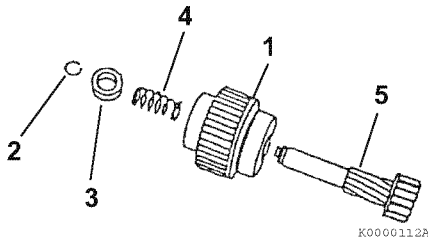

Figure 11-27
1. Apply the appropriate starter bendix grease (obtain locally) to the pinion shaft. Reassemble the pinion shaft (5, **Figure 11-27**), pinion clutch assembly (1, **Figure 11-27**), return spring (4, **Figure 11-27**) and pinion stop (3, **Figure 11-27**). Reinstall the retaining ring (2, **Figure 11-27**) in the groove in the pinion shaft. Slide the piston stop over the retaining ring.